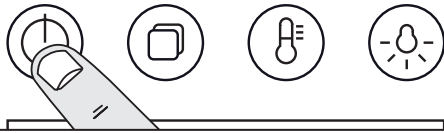

Fig. 5.14
1. Touch and hold the standby button to switch the steam cavity on (**Fig. 5.13**) then use the [+] or [-] buttons to scroll through to the grill function (**Fig. 5.14**).